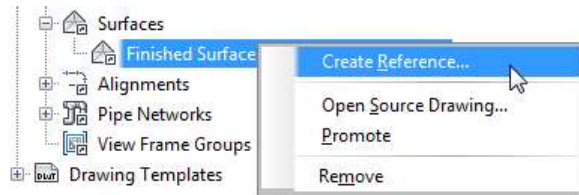
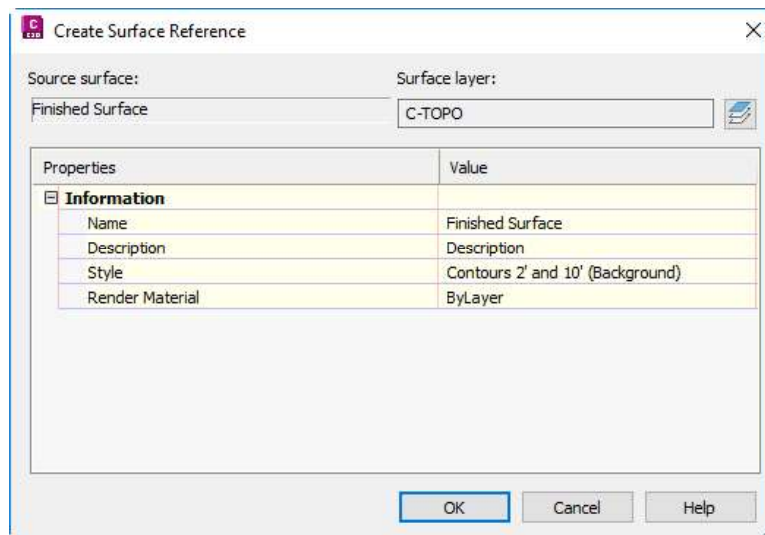

Figure 13-24 Choosing the Create Reference option
Figure 13-25 The Create Surface Reference dialog box
- Right-click on **Finished Surface** and choose the **Create Reference** option from the shortcut menu displayed, as shown in Figure 13-24; the **Create Surface Reference** dialog box is displayed, as shown in Figure 13-25.